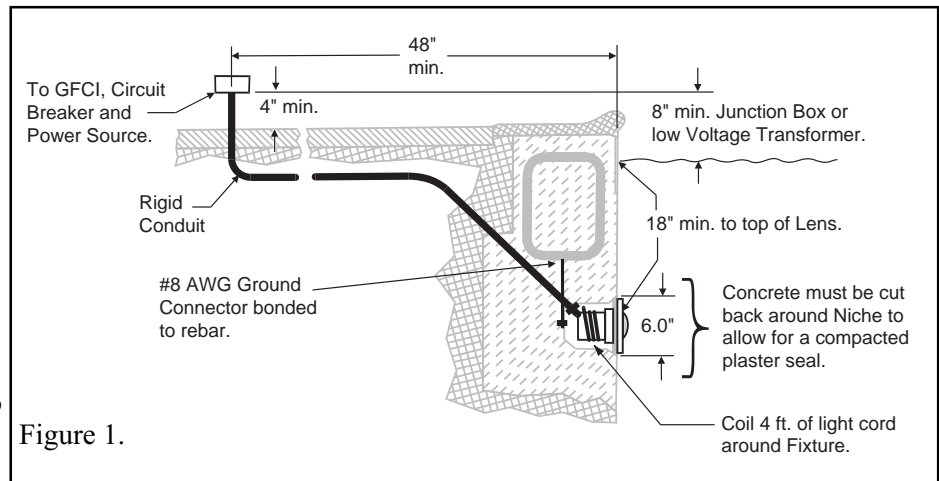

Figure 1.
A. The electrician must complete preparatory steps before light fixture is installed; see Figure 1.
- b. The Junction Box (or, for 12 volt models, the low voltage transformer) must be located at least eight (8) inches above water level, at least four (4) inches above ground level, and at least 48 inches from the edge of the pool or spa; see Figure 1.
- c. The light fixture and all metal items within five (5) feet of the pool or spa must be properly electrically bonded.
- d. The wet niche must be properly installed so that the top edge of the underwater light's lens is at least 18 inches below the surface of the water in the pool or spa; see Figure 1. (*Not more than 48 inch depth in Canada.*)
- e. The wet niche must be properly electrically bonded and grounded via the No. 8 AWG ground connector located at the rear of the niche; see Figure 1.
1. Feed cord through conduit to Junction box, leaving at least four (4) feet of cord at the light fixture to coil around the light; see Figure 1. This four (4) feet of cord around the light allows the light to be serviced after the pool or spa is filled with water.
2. Cut the cord at the Junction Box, leaving at least six (6) inches of cord to make connections.
3. Strip six (6) inches of the outer cord jacket to expose the three insulated wires. Be careful not to damage the insulation on the three (3) inner wires.
4. Install strain relief over cord jacket and connect all three (3) wires to the corresponding circuit wires in the Junction Box. Install the Junction Box cover.
- b. The Junction Box (or, for 12 volt models, the low voltage transformer) must be located at least 8 inches above ground or water level, at least four (4) inches above ground level, and at least 48 inches from the edge of the pool or spa; see Figure 1.
- d. The wet niche must be properly installed so that the top edge of the underwater light's lens is at least 18 inches below the surface of the water in the pool or spa; see Figure 1.
5. Leave at least 4 feet of cord to coil around the light fixture; see Figure 1. This allows the light to be serviced after the pool or spa is filled with water.